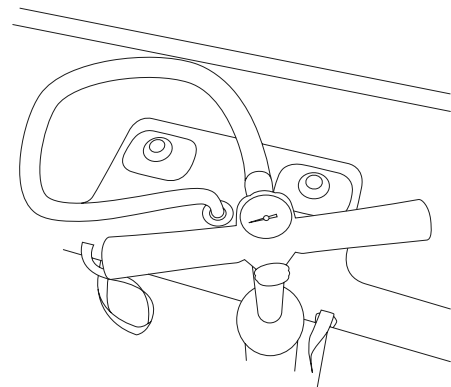

Fig 11 – Use pressure gauge found on SUP pump
10. Check for the correct air pressure by using a manometer (not provided) or using the pressure gauge supplied on the Stirrup pump (Fig 11).